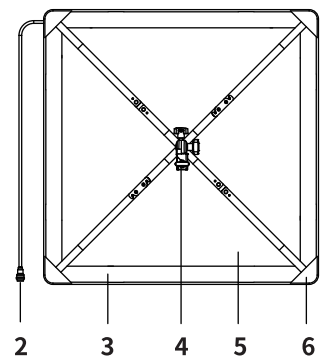
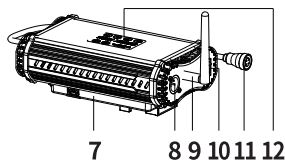

Fig4 S-2630 (for example)
Fig5 S-2610
- (1). The light is thin, soft and light weight so it can bend to use
- (2). Joint the light using the Velcro tape
- (3). Use the Velcro tape to fix the light on the back of the chair, car roof or other narrow and small places.
- (4). Use the X-frame to fix the light (Fig4)
For clients who buy diffuser and ball diffuser, please install the X-frame to fix the light first (Fig4), then fix the diffuser and ball diffuser using the Velcro tape.
1.2 Please reliably connect the control box output cable (Fig 5 No.11) with light input connection cable (Fig4 No.2)